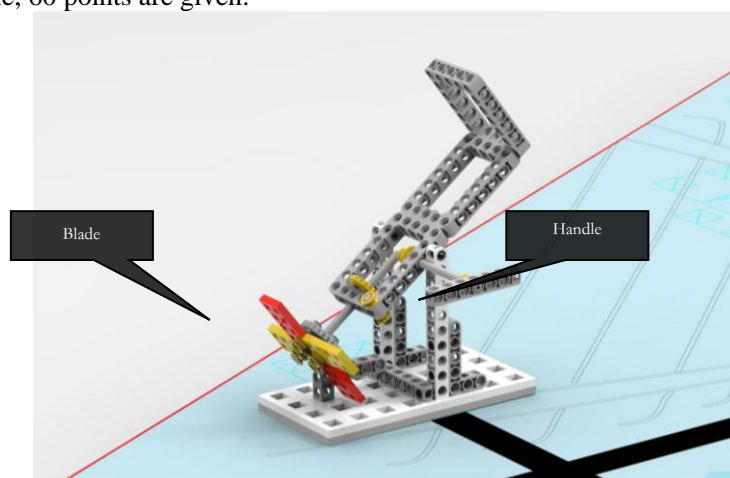

Figure 5 Fan model before repair
3.3.1 There is a model of a fan to be repaired on the site, with the handle parallel to the site, as shown in Figure 5.